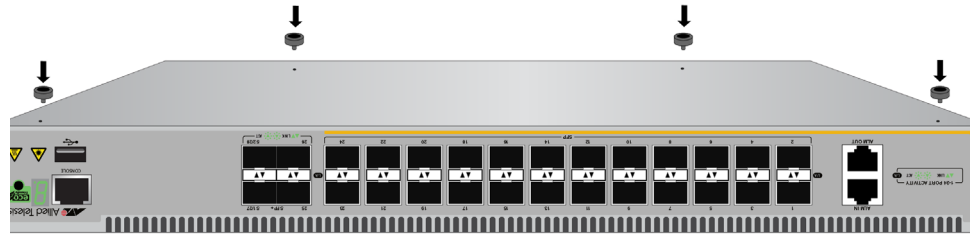

Figure 21. Inserting the Rubber Feet into the Upside Down Switch
3. Insert the rubber feet into the four holes and push the rivets down until they are flush with the bottom of the feet, as illustrated in Figure 21.